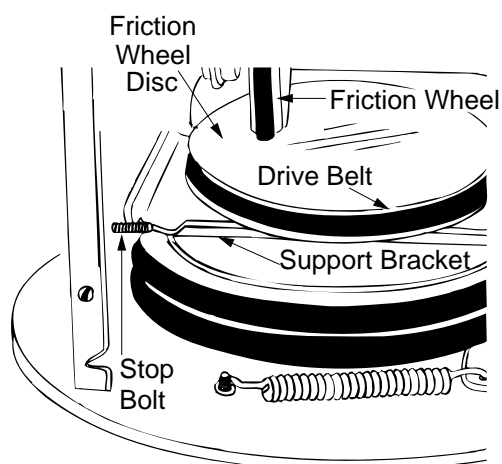

**Figure 24**
6. Unhook the idler spring from the hex bolt on the auger housing. See Figure 24.
10. Slide friction wheel assembly back onto the gear shaft. Be sure to align the pin on the shift rod with the hole in the friction wheel assembly. See Figure 24. Reassemble in reverse order.